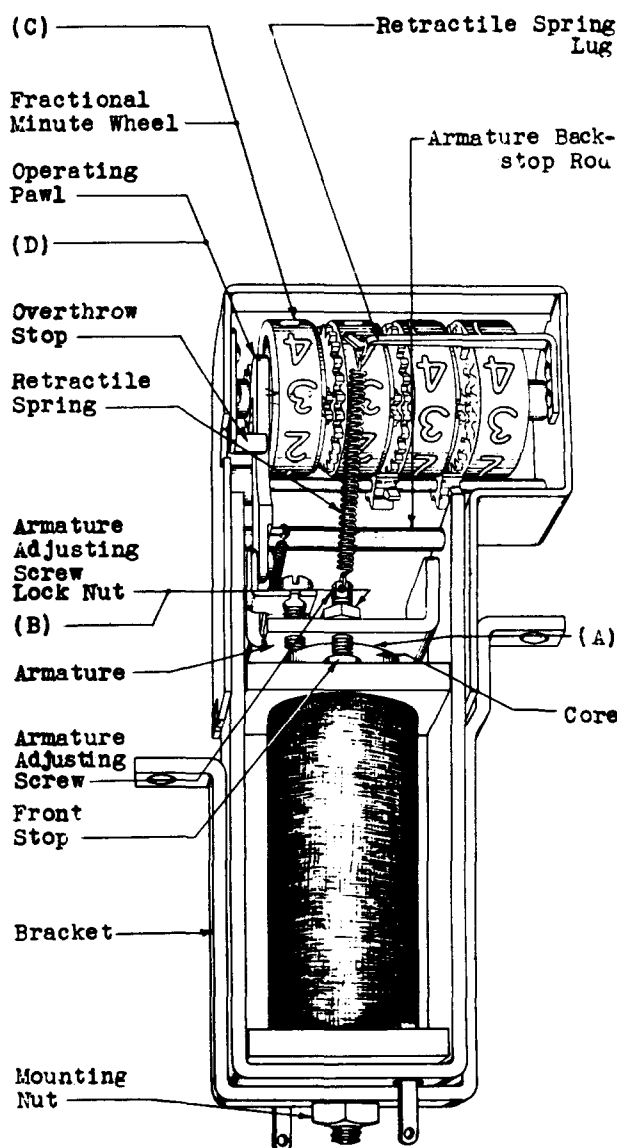

Fig. 2
**\*2.05 Armature Air-gap:** Fig. 2(A) — With the armature in its operated position, the clearance between the end of the core and the under side of the armature shall be:
**2.06 Tightness of Lock Nut:** Fig. 2(B) — The armature adjusting screw locknut shall be sufficiently tight to hold the screw in any adjusted position.
**2.07 Back Lash:** Fig. 2(C) — The fractional minute wheel shall have a noticeable forward and backward movement or "back lash." The back lash shall not be sufficient to allow the top of any figure to lie above the top edge of the cap window or the bottom of any figure to lie below the bottom edge of the cap window when viewed from a position which the operator would normally occupy.
Fig. 2(D) — The operating pawl shall not bind on its bearing or against the side of the fractional minute wheel. If the pawl touches the fractional minute wheel, due to side play in the pawl, but can be made to stand away from the wheel it shall not be considered as binding against the wheel.